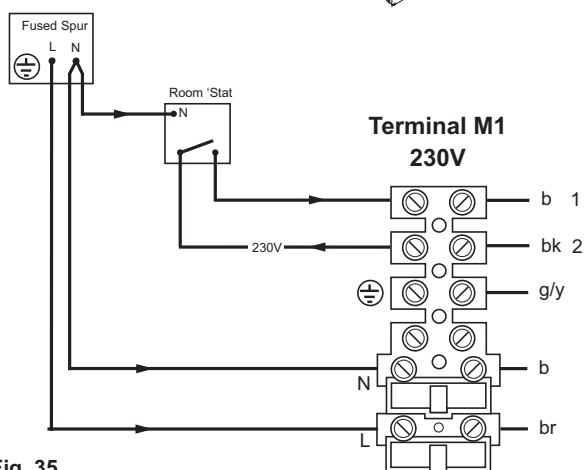

Fig. 35
7. Remove the link between connections 1 & 2. The 230V supply at connection 2 must be connected to the thermostat. The switched output from the thermostat must be connected to connection 1. (Figs. 35 & 36). If the room thermostat being used incorporates an anticipator it MUST be wired as shown in Figs. 35 & 36.